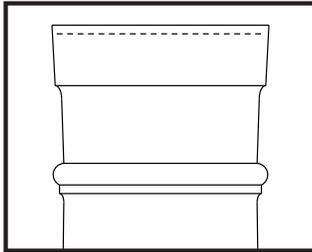
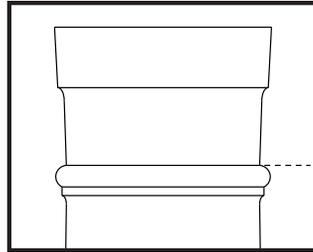
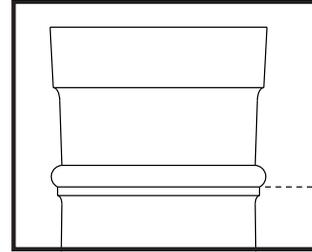

Figure 3
Figure 4
Figure 5
2. Trim top of shaft for the type of capital you will be installing. For fiberglass or poly caps, trim to the fillet (top molding) (Fig. 3). For Temple of Winds and Roman Corinthian capitals, trim column at the top of the neck ring molding (Fig. 4). For Ionic type capitals, trim column immediately below neck ring (Fig. 5).